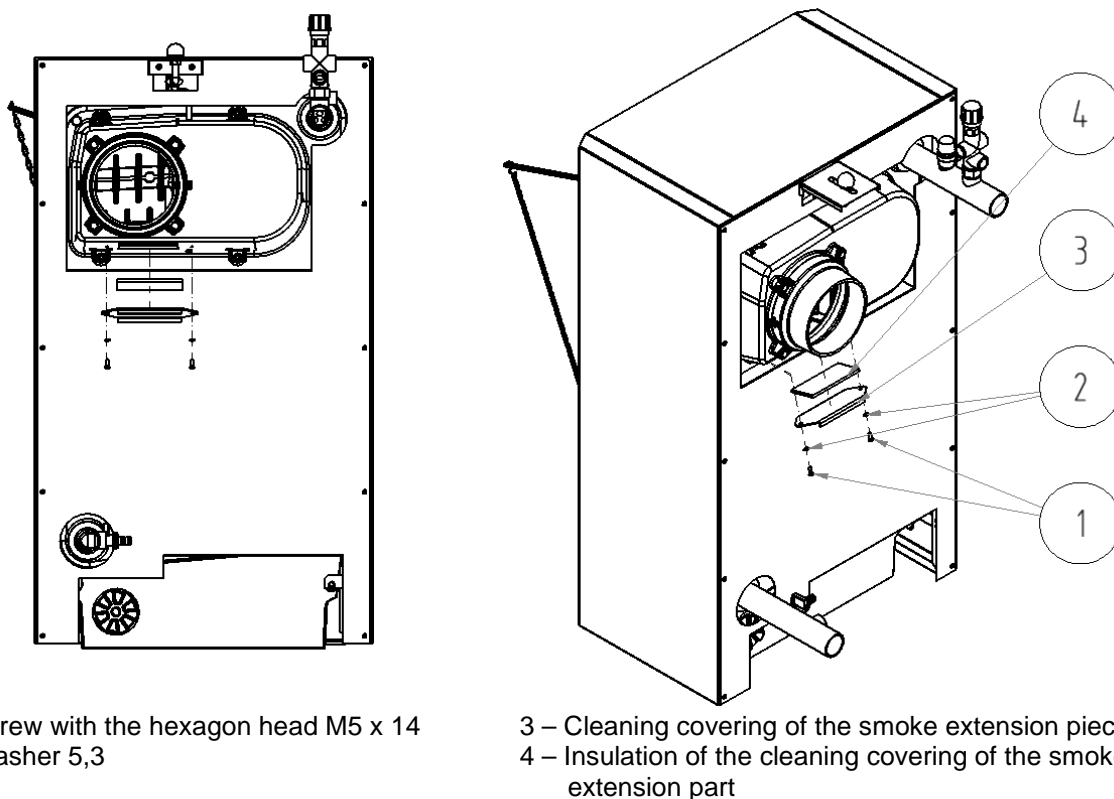

Fig. no. 14 Cleaning of the smoke extension piece
2. In the course of the heating with coke, hard and brown coal it is necessary to clean regularly once a month the boiler walls inside the feeding hopper and also the smoke extension part (Fig. no.14).